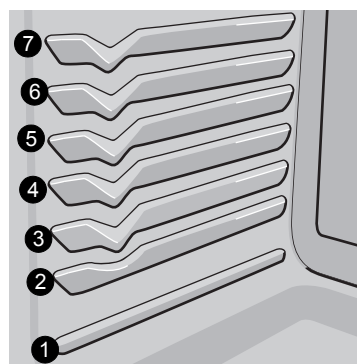

Fig. 40 Rack positions
- Place food items using oven rack positions 2 or 4. (Figure 40)